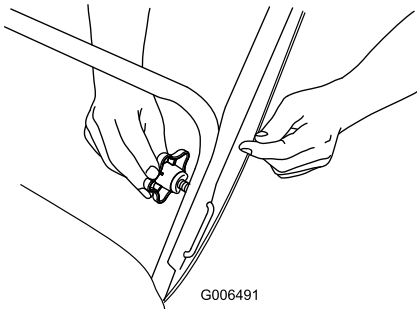

Figure 5
1. U-shaped handle lock (2) 2. Handle knobs
2. Insert the end of the U-shaped handle lock into the open hole in the handle and tighten the handle knobs until they are snug (Figure 5).